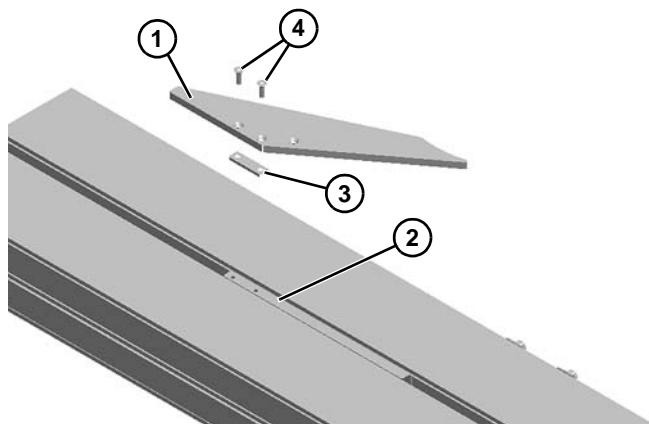

Figure 50
4. Install corner guide (**Figure 50, item 1**) to conveyor tie plate (**Figure 50, item 2**) with spacer (**Figure 50, item 3**) and two flat head screws (**Figure 50, item 4**).